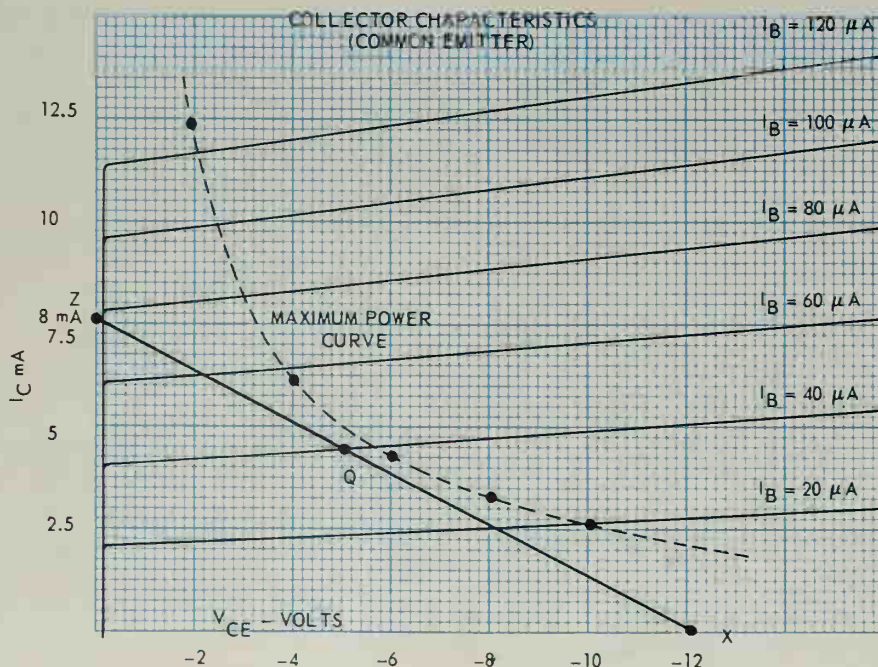
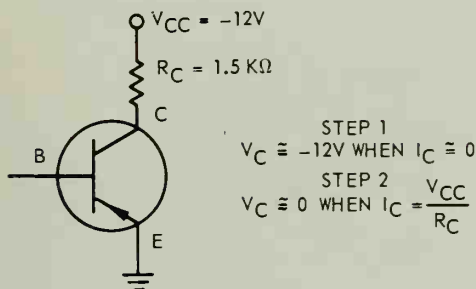

Fig. 14-16. The load line is drawn on the family of characteristic curves.
Fig. 14-17. The circuit used with characteristic curves to establish dc load line.
ed conditions. The family of static characteristic curves of a typical transistor is illustrated in Fig. 14-16 for a CE amplifier. A supply voltage of 12 volts will be used. $V_{CC} = -12$ volts.
1. Use Fig. 14-17 to follow computations. At the point of zero collector current, the voltage drop across R_C is equal to zero and the collector voltage V_C is close to V_{CC} or -12 volts. This point of $I_C = 0$ and V_{CE} is 12 volts is plotted in Fig. 14-16 as X.
The point Z is plotted on Fig. 14-16, using $V_{CE} = 0$ and $I_C = 8$ milliamps.